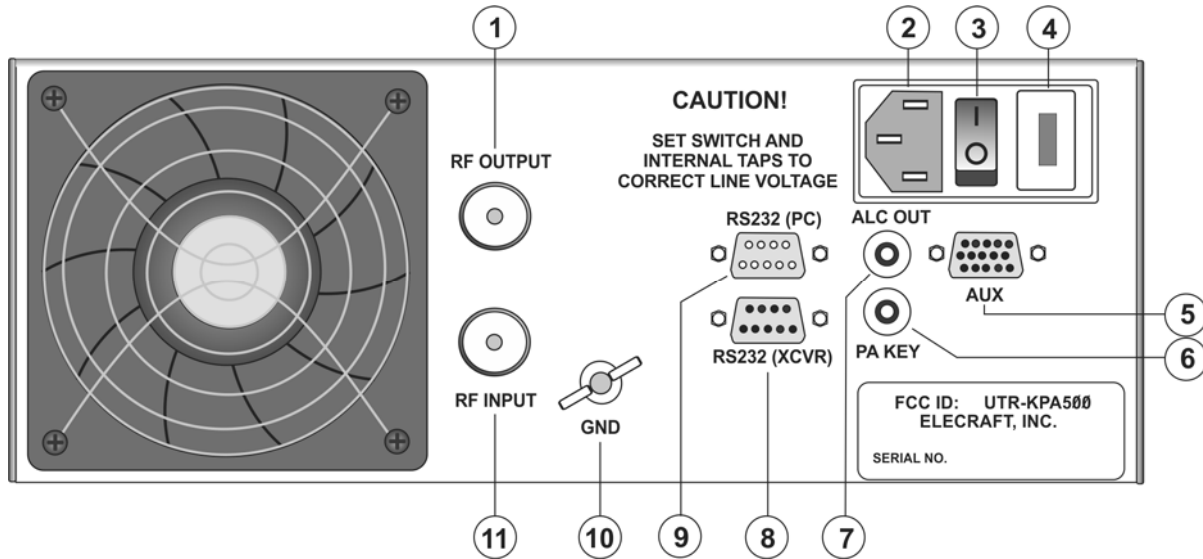

Figure 1. KPA 500 Rear Panel
⚠ IMPORTANT: Always turn the amplifier off using the rear panel switch ({3} in Figure 1) before attaching or removing cables.
1. Ensure a suitable 50 ohm load is attached to the RF OUTPUT connector on the rear panel (Figure 1, {1}). A dummy load is strongly recommended for initial tests.
2. Enable the power supply by pressing the rear panel rocker switch (Figure 1, {3}) to the On (I) position.